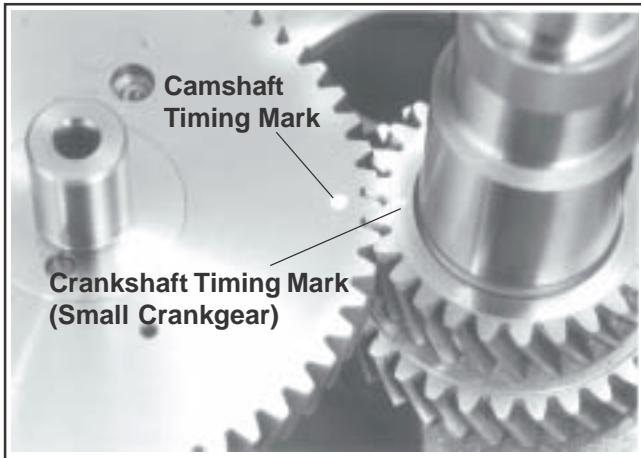

Figure 11-12. Aligning Timing Marks on Crank Gear and Cam Gear.
- Make sure the camshaft gear and the smaller gear on the crankshaft mesh and the timing marks are aligned. See Figure 11-12.